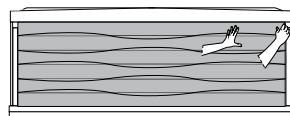

Figure 13.2b
2. Remove the center panel. Grab either the top left or top right side of the front center panel, Figure 13.2b. Gently pull the cabinet forward to unsnap it from the holding clips. Make sure to support the cabinet as you work your way down the side to completely unclip it from the hot tub frame. Once completely unclipped, tilt slightly forward and lift up to remove it from the hot tub frame. Place the panel in a safe location to prevent from damaging it.